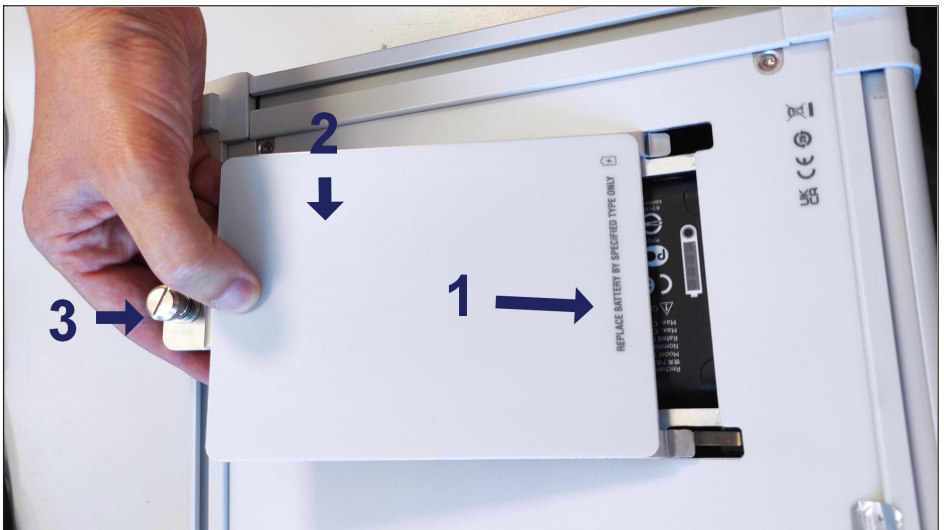

Fig. 3.12 Closing the battery pack lid
- ▶ Reinsert the lid by sliding it to the bottom (number **1** in Fig. 3.12), press it down to place (number **2** in Fig. 3.12), and secure it by screwing the locking pin (number **3** in Fig. 3.12).